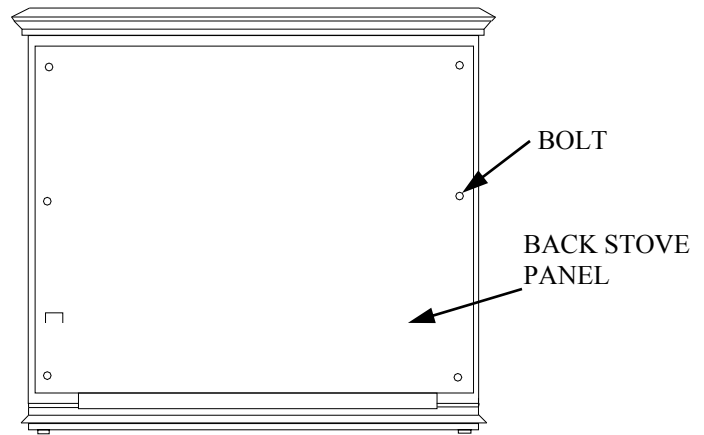

FIGURE 5 - REMOVING BACK PANEL
4. Remove back panel from stove, if equipped (See Figure 5). Use an adjustable wrench or a 10 mm socket. Remove six (6) bolts and washers. Keep bolts and washers to reattach back panel later.
4. If not already removed, remove back panel from assembled stove body, if equipped (See Figure 5, page 7). Use an adjustable wrench or a 10mm socket. Remove six (6) bolts and washers. Keep bolts and washers to reattach back panel later.
4. If not already removed, remove back panel from assembled stove body (Stoves sold for the use of a Model CVF200's series may not have a back panel, just the bolts). See back panel and bolts on page 7, Figure 5. Use a 10mm socket or an adjustable wrench. Remove six (6) bolts and washers. Keep bolts and washers to attach Rear Mounting Brackets.